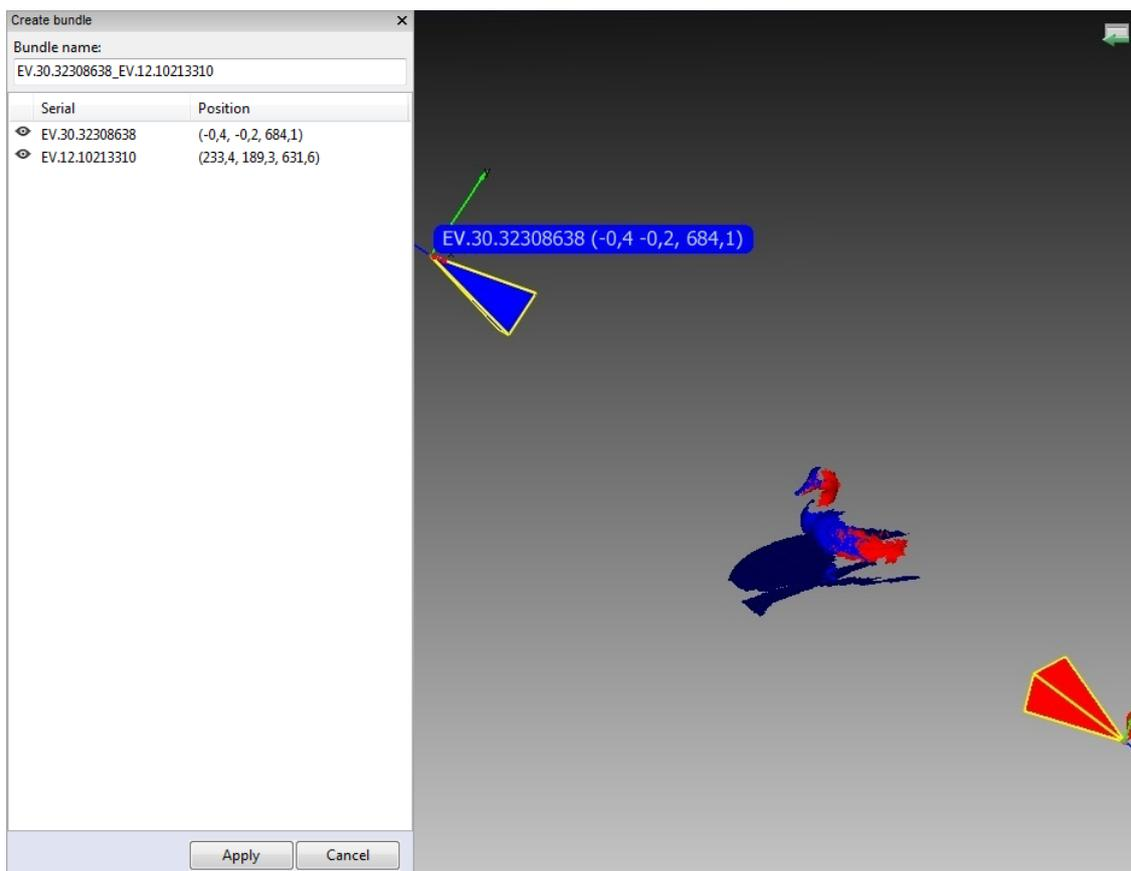

Figure 109: Bundle-creation window.
5. From the menu, select *File* → *Create bundle*. A warning message will appear if you forget to align the scans. Otherwise, the bundle-creation panel will appear (see Figure 109). The *3D View* window will show the selected scans, the position and viewing direction of the scanners (by means of an appropriately colored pyramid), the device ID, and the scanner coordinates. It will display a list of connected devices and corresponding information.